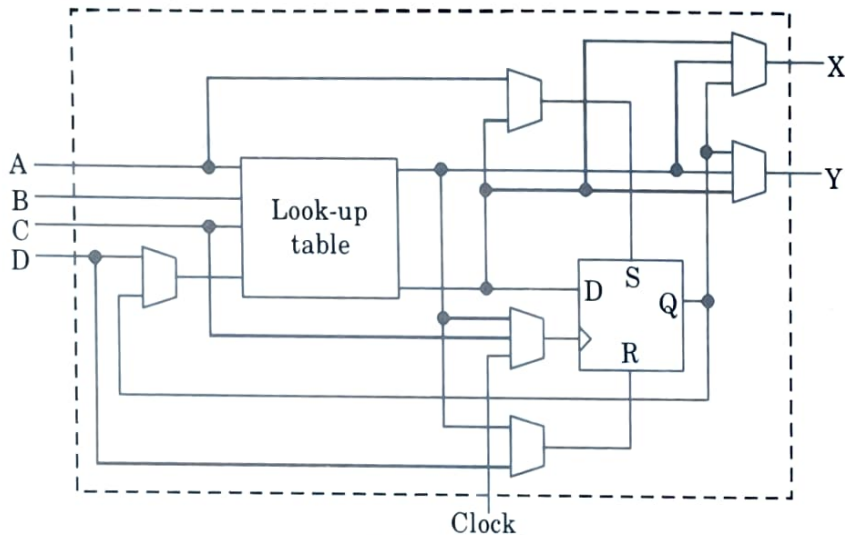

Fig. 1.8.2.
5. A simple CLB is shown in Fig. 1.8.2. It consists of four signal input terminals (A, B, C, D), a clock signal terminal, user-programmable multiplexers, an SR-latch, and a look-up table (LUT).